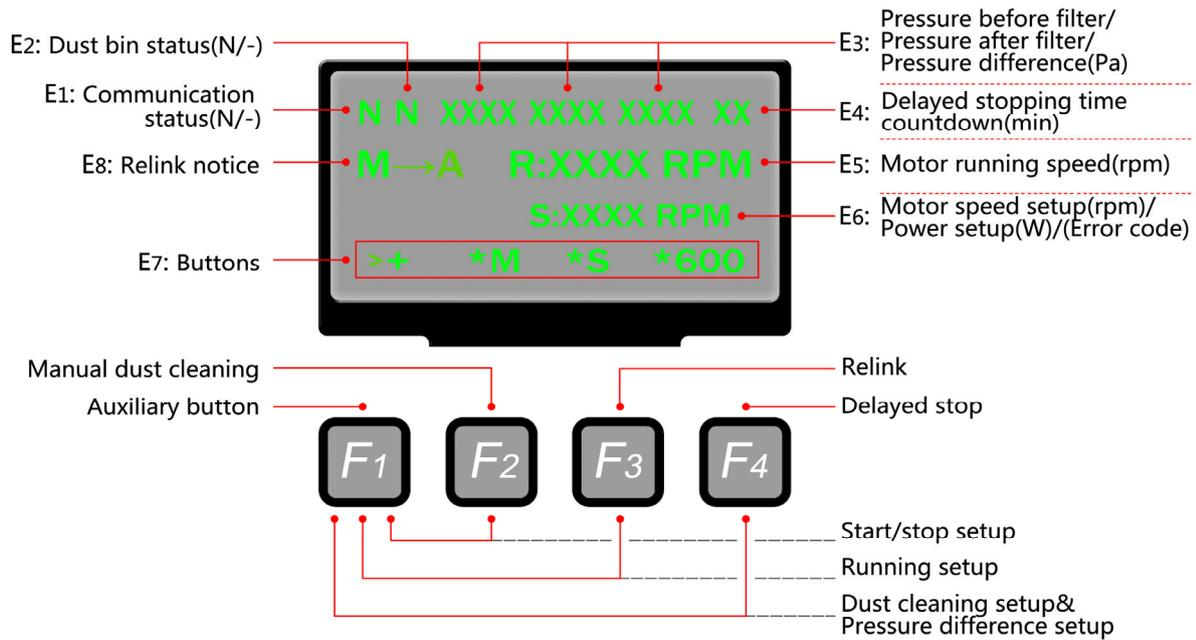

Fig. 10
5.1.1 OLED Display: (Fig. 10)
5.1.2 Button operation and instruction: (Fig. 10)